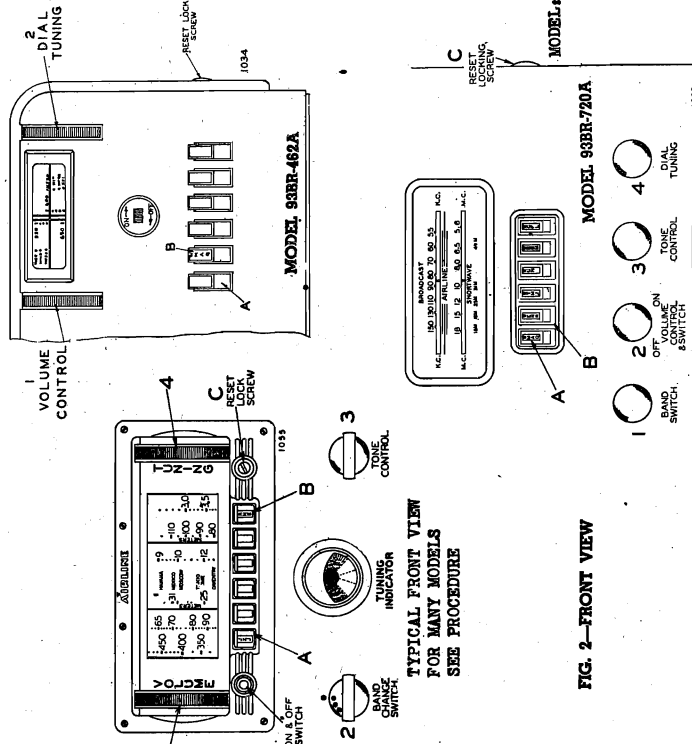

FIG. 2—FRONT VIEW
There are six push buttons by means of which six stations may be selected (See "A," Fig. 2). Make a list of local stations or stations you tune in regularly, any number up to and including six.
On the front of each automatic push button an opening is provided for inserting the call letter tabs. (See "B," Fig. 2). Insert the call letter tabs in the rectangular openings of each of the automatic push buttons. One of the small circular tabs supplied should be inserted into place over each of the station call letter tabs.
1. Remove the snap-in button from the dial escutcheon plate (See "A," Fig. 2). If the snap-in button will not come out easily, using your fingers, pry it off with a screwdriver or a knife, being careful not to mar the finish on the escutcheon plate.